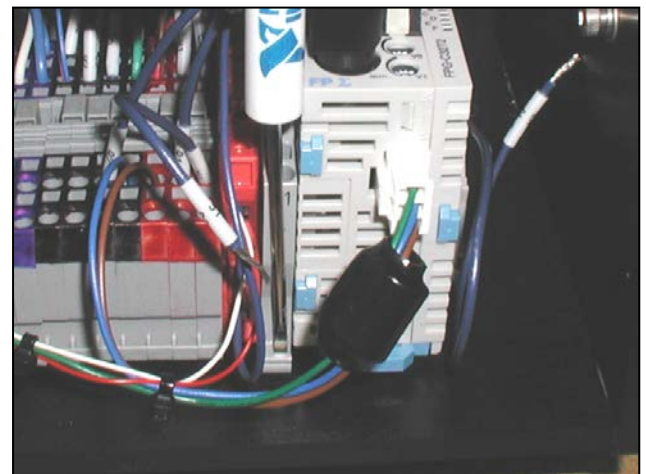

Figure 3-109. Removing Relay
4. Remove Relay from DIN rail by taking a small screwdriver and pulling tab out while pivoting Relay back (Figure 3-109).